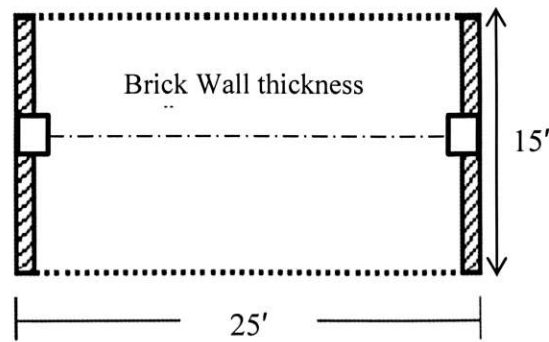

Figure: 2
7. Use Ultimate Strength Design (USD) method to determine required depth for moment ($d_{req,m}$) and reinforcement for the rectangular footing for the 12"x18" RC columns supporting RC slabs ($t = 8"$) in a 4-storied building with 12'-high stories as shown in Figure 2, if they carry loads including FF = 40 psf, RW = 55 psf and LL = 40 psf